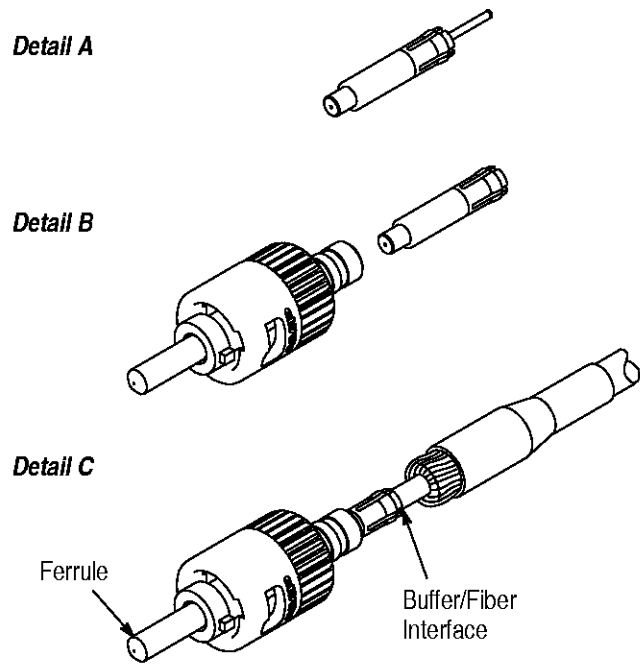

Figure 7
1. For 250- μm coated fiber, insert the 20 mm [.80 in.] Hytrel tubing (gray or white) into the back of the plunger. See Figure 7, Detail A. The tubing is properly seated when approximately 6.0 mm [.24 in.] of tubing remains outside of the plunger.
2. Insert the plunger into the rear of the connector body until it stops. See Figure 7, Detail B.
3. Feed the prepared fiber (either jacketed or unjacketed) through the rear of the plunger (and connector body) until it stops. To insert the fiber easily, hold the fiber at the buffer/fiber interface, and rotate the connector slowly while inserting the fiber. See Figure 7, Detail C.